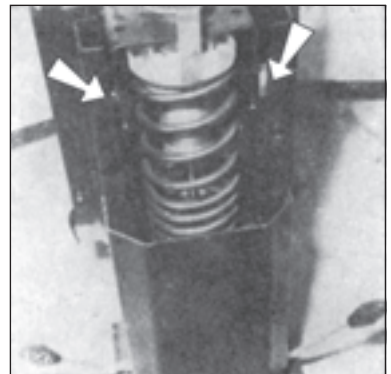

Fig. 170
33. Check the function of the seat handle control and the seat roller and if necessary, clean and grease the guide rail surfaces and the seat handle bolt (Fig. 170) after four bolts M 6 and the seat cover have been removed.
48. Check the tightness of the hydraulic seat damper. If the fluid is leaking, replace the defective sealing of the piston rod, rinse the damper with petrol and refill it with 70 cm³ of damper oil (Fig. 170).